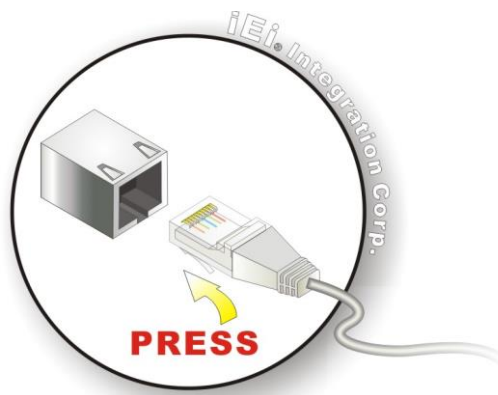

Figure 4-8: LAN Connection
Step 2: **Align the connectors.** Align the RJ-45 connector on the LAN cable with one of the RJ-45 connectors on the TANK-XM812 Series. See **Figure 4-8**.